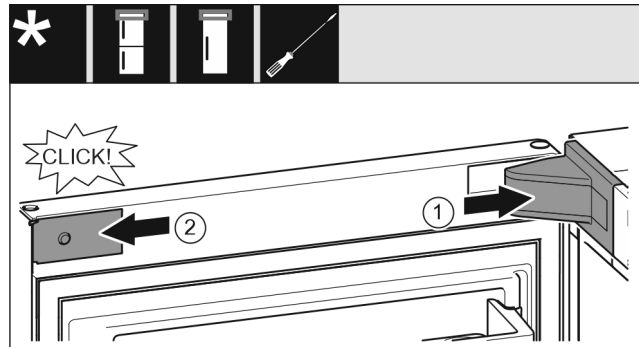

Fig. 24
- ▶ Position the bearing bracket cover and engage it. If necessary push it apart carefully. Fig. 24 (1)
- ▶ Position the panel on the side and latch into place. Fig. 24 (2)